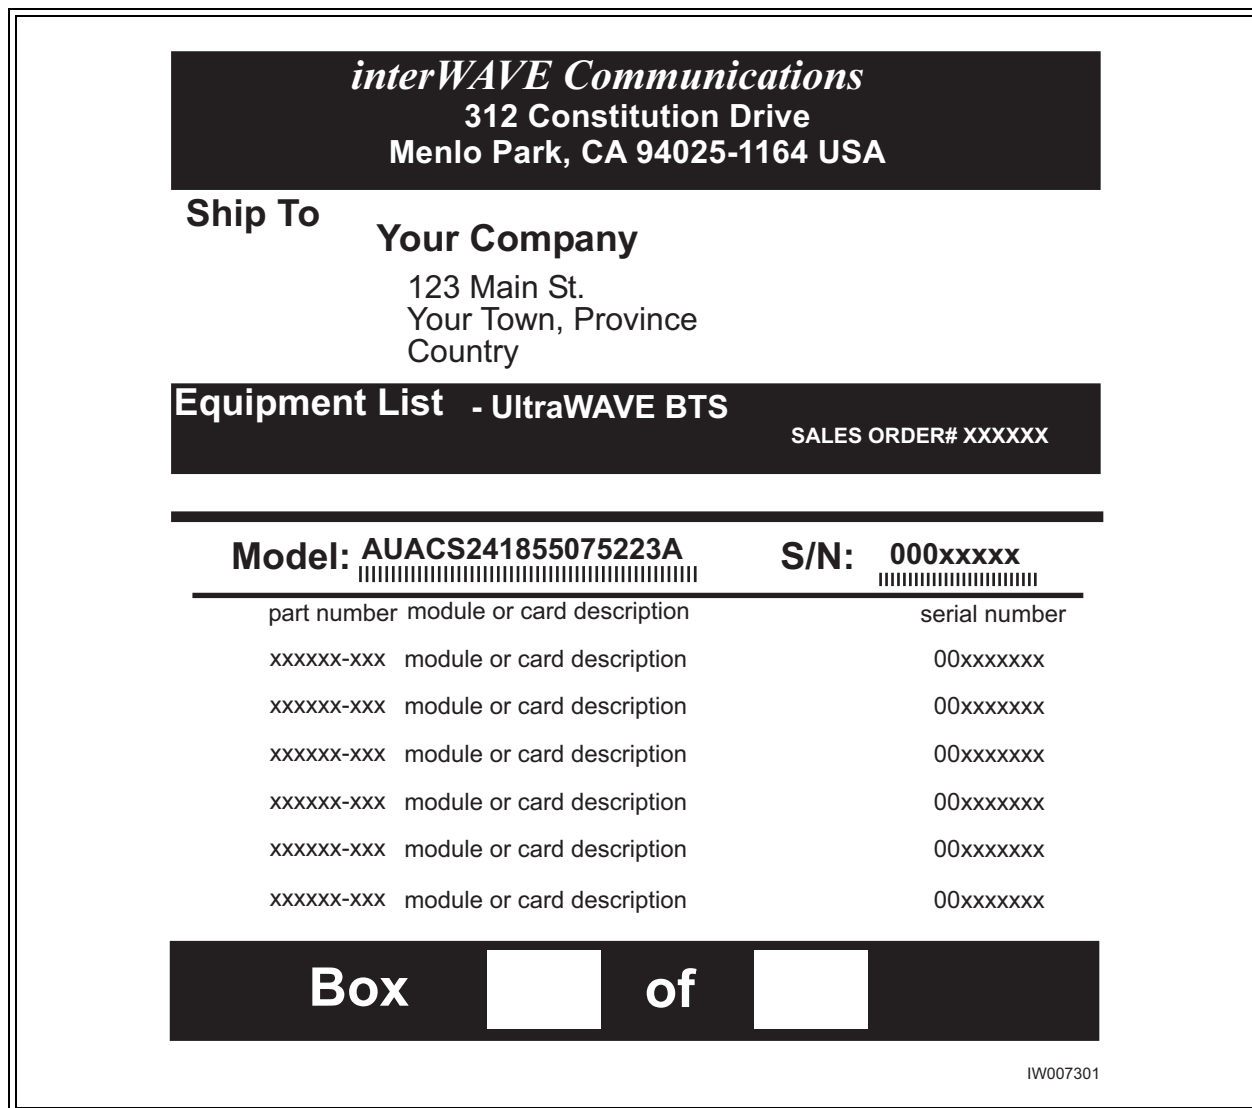

Figure 1-3 Main Configuration Label
- 1 Locate the main configuration label on the exterior of your shipping container as shown in Figure 1-3.
Using the example in Figure 1-3, the model number is AUACS24 which corresponds to an UltraWAVE BTS configured for three sectors with two TRXs per sector (S222).